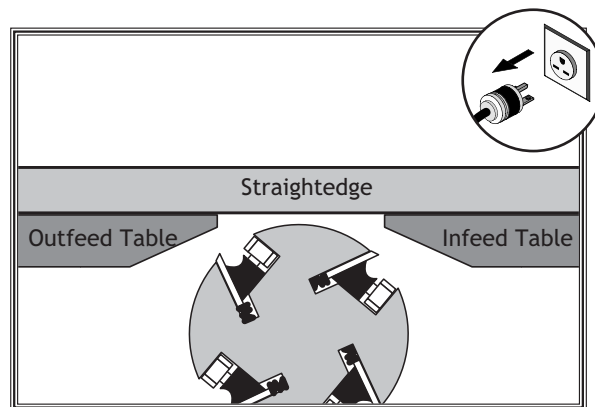

Figure 49. Infeed and outfeed tables set evenly.
3. Place the straightedge halfway across the infeed table and halfway over the outfeed table, and adjust the infeed table even with the outfeed table, as shown in **Figure 49**.
6. Place the straightedge halfway across the infeed table and halfway over the outfeed table, and adjust the infeed table even with the outfeed table, as shown in **Figure 49**.